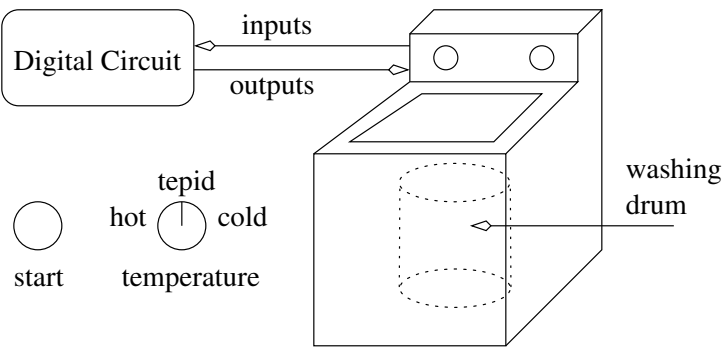

Figure 7.24: A humble washing machine with a close-up of the start button and temperature switch.
12. (24 pts.) Construct a digital circuit to control the operation of a simple washing machine, see Figure 7.24. To use the simple washing machine set the temperature switch to either hot, tepid or cold and then press the start button. To build a digital circuit to control the washing of clothes its necessary to understand the washing cycle. When the start button is pressed water of the selected temperature pours into the washing drum. The simple washing machine has two electronically controlled water valves, the hot valve admits hot water into the washing drum and the cold valve admits cold water. Water continues to pour into the drum until it fills. There are two water level sensors; the full switch signals when the drum is full of water and the empty switch signals when the drum is empty. After the drum is full of water the simple washing machine starts to agitate the clothes. The simple washing machine has a motor controlled by two bits, which agitates (a rapid back and forth motion), spins (a rapid rotation in one direction) or does